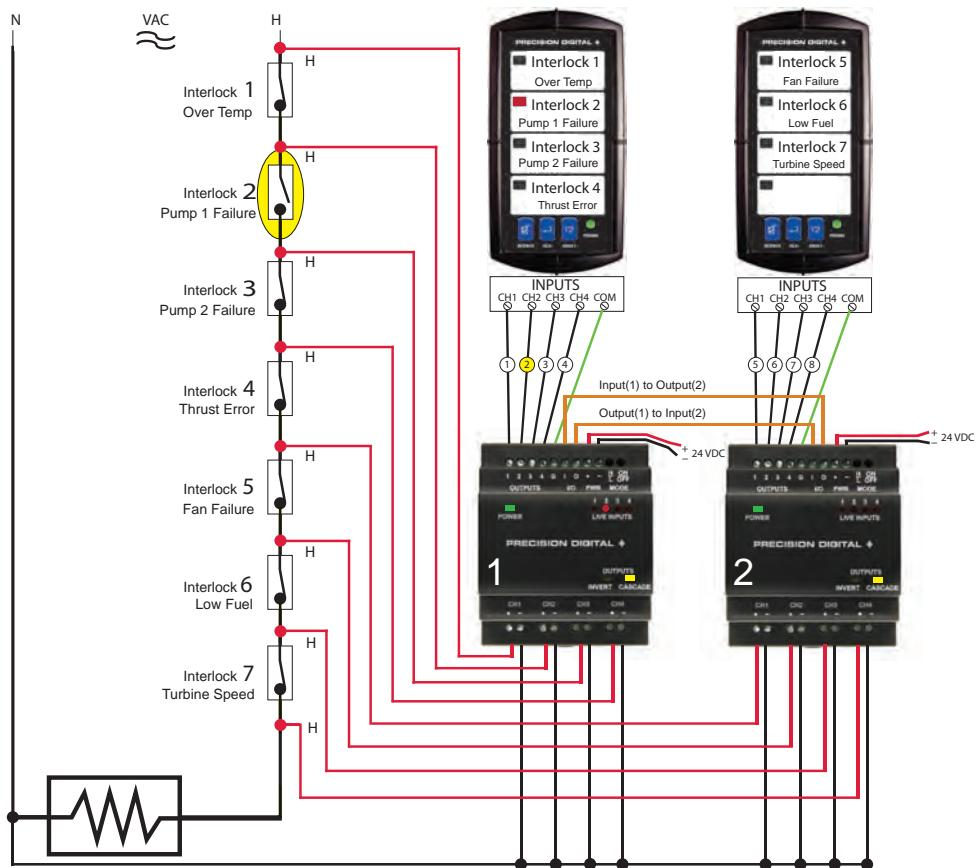

Figure 6.
To connect multiple units in Cascade Mode, connect terminal O on the first converter to the I terminal of the second. Continue to connect converters in this way until the last converter's O terminal is connected to the first converter's I terminal, as seen in **Figure 6**.
Cascade Mode is a special operation mode used for the monitoring of high voltage interlocks where one failure causes a failure of all monitoring points further down in the system. Examples of this include the many interlocks on boiler systems, where a single failure can cause a cascade of failures later in the system. Cascade Mode will indicate the single point of failure in these series systems, as seen in **Figure 6**.
Cascade Mode logic may be combined across multiple Logic Level Converters to monitor more than 3 alarm outputs (or 4 inputs). When wired together, output four (4) of a Logic Level Converter will monitor input CH4 and CH1 of the next Logic Level Converter wired in series with it. Multiple unit Cascade Mode may be used across an unlimited number of units. See **Figure 6**.